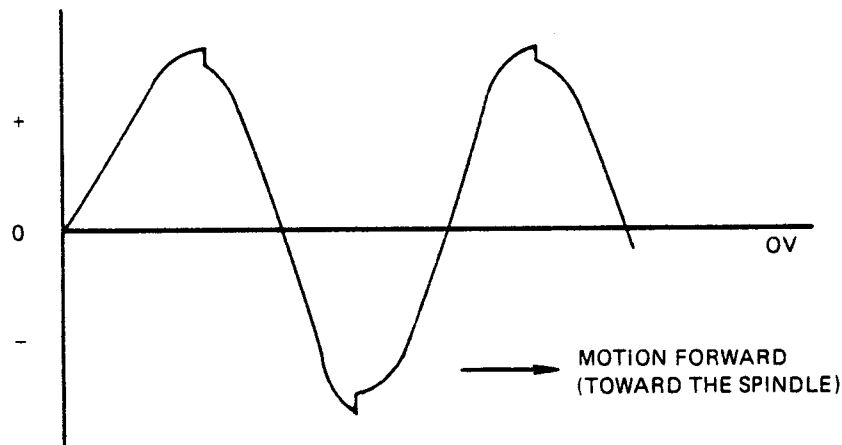

Figure 6-5. X + 0 Analog Signal Added to X + 90 Digital Signal
- (2) Readjust the sensitivity of Channel 2 to 0.5v per division.
- (3) Set Channel Select switch to Add mode (Channel 1 plus Channel 2).
- (4) Sync internally off of Channel 1 on the positive portion of the analog signal.
- (5) Manually move the positioner carriage back and forth, at a constant rate, through its full stroke.
- (6) Observe that the X + 90 digital signal, added to the X + 0 analog signal, appears on the positive and negative peaks of the sine wave as illustrated in Figure 6-5.
- (7) While moving the positioner carriage forward (toward the spindle) verify that the added digital signal (X + 90) has its trailing edge on the positive peak of the sine wave (see Figure 6-5).
- (8) If the trailing edge of the digital signal is not on the positive peak of the sine wave, or the oscilloscope pattern does not correlate with Figure 6-5, perform the adjustment procedure detailed in Paragraph 6.8.3.3.
- (3) Manually move the positioner carriage back and forth through its full stroke, while monitoring the waveform at TP13 and TP20. At the same time (using a wide-edge screwdriver in the grooves provided at the top of the receiver post) rotate the reticle CW or CCW until the waveform of Figure 6-5 is achieved.
- (4) Partially tighten the hex-head screw, loosened in Step (1), to the point where self-rotation of the receiver post is inhibited.
- (5) Perform the Heads Retracted Signal Check described in Paragraph 6.8.4.